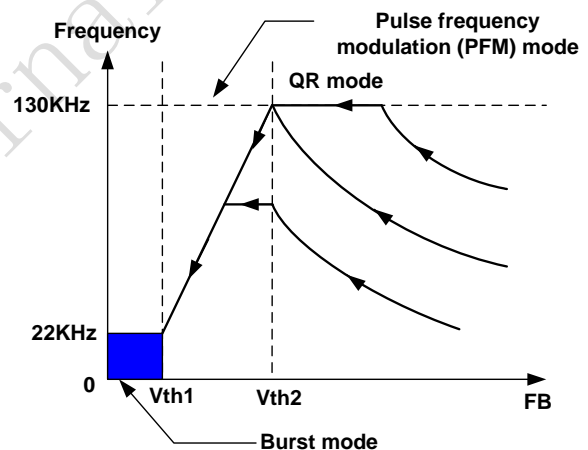

Figure 1
■ Under normal operating conditions ($FB > V_{th2}$, Figure 1), the system operates in QR mode. The frequency varies depending on the line voltage and the load conditions. Therefore, the system may actually work in DCM when 130KHz frequency clamping is reached. System design should be optimized such that the operation frequency is within the range specified at full load conditions and in universal AC line input range.
■ At light load condition ($V_{th1} < V_{FB} < V_{th2}$, Figure 1), the system operates in PFM (pulse frequency modulation) mode for high power conversion efficiency. In PFM mode, the “ON” time in a switching cycle is fixed and the system modulates the frequency according to the load conditions. Generally, in flyback converter, the decreasing of load results in voltage level decreasing at FB pin. The controller monitors the voltage level at FB